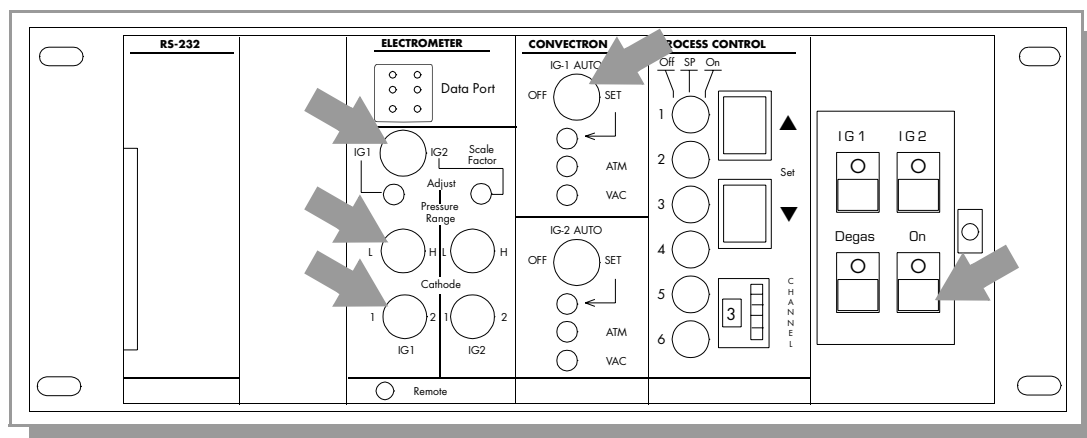

Figure 4-1 Control Unit (with Door Open) Showing Electrometer Module Controls.
2. Turn on the Stabil-Ion System by pressing the Control Unit power switch labeled ON. See Figure 4-1.